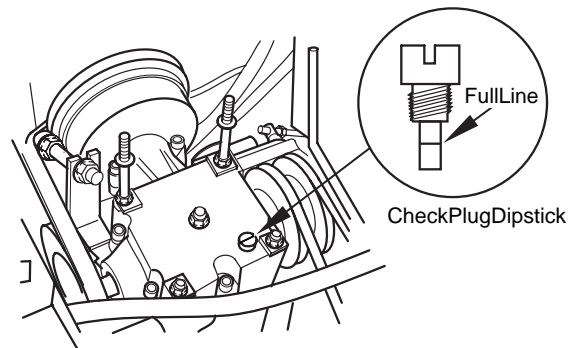

Figure 7-11 Transmission Drive Gearbox
The fluid level in the transmission drive gearbox (Figure 7-11) should be checked after every 100 hours of operation or bi-weekly, whichever occurs first.
3. Remove the check plug dipstick from the gearbox. Visually check the fluid level on the dipstick. The fluid level must be between the full line and bottom of the dipstick (Figure 7-11). If the fluid level is low, fill the gearbox through the check plug port with Mobil SHC630 lubricant. Install the check plug dipstick and tighten securely. (Figure 7-11)